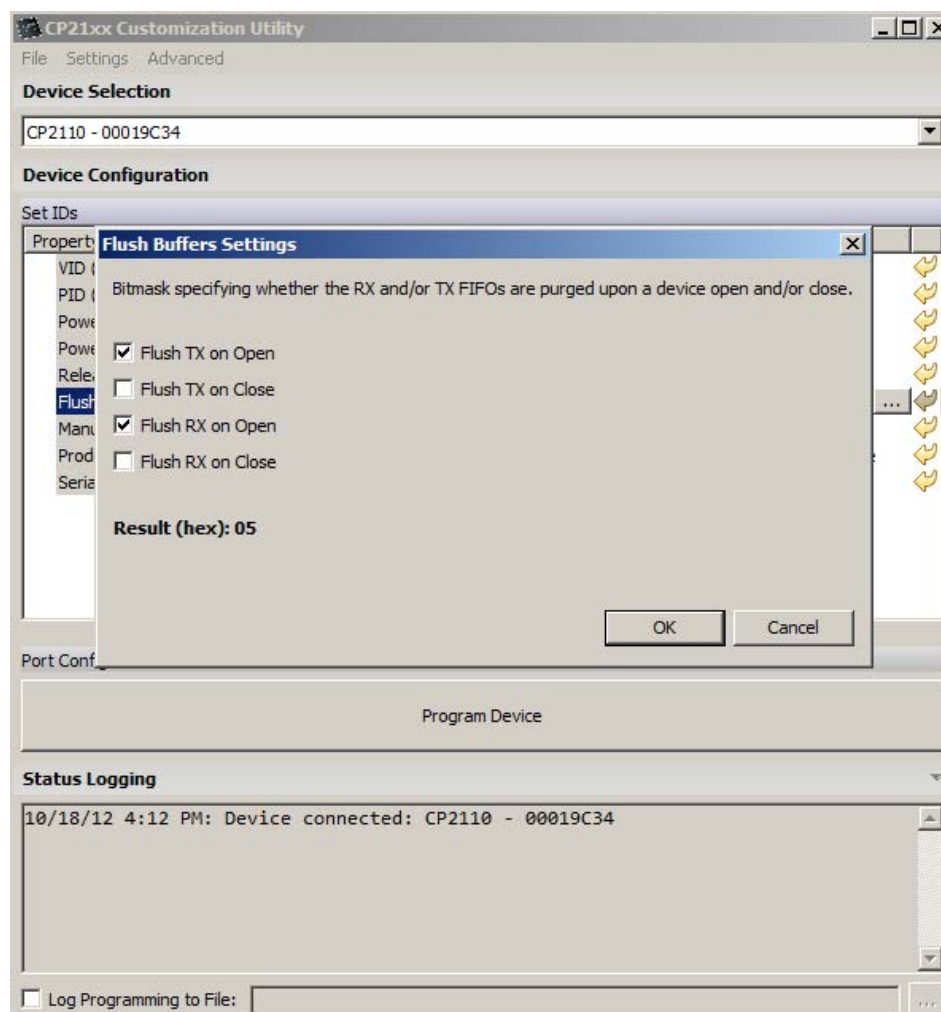

Figure 4. CP2110/CP2114 Flush Buffers Options
6. **Flush Buffers**—The flush buffers options shown above in Figure 4 allows open and close options on the RX and TX. Check the options required for the application.